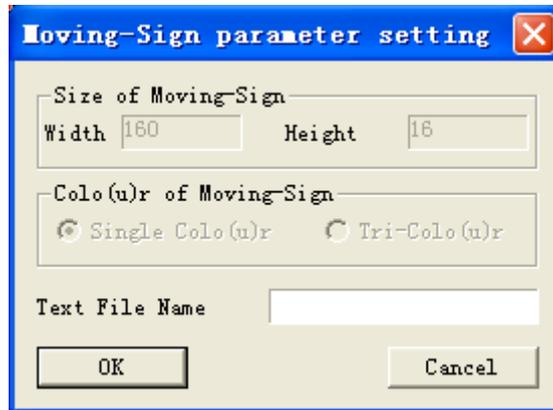

Fig2.21
- ① Select a Window File name from the pull down list.
- ② To create a new window file click this button. A dialog as in fig2.21 will prompt for input of the file name. Program will return to edit window mode automatically.